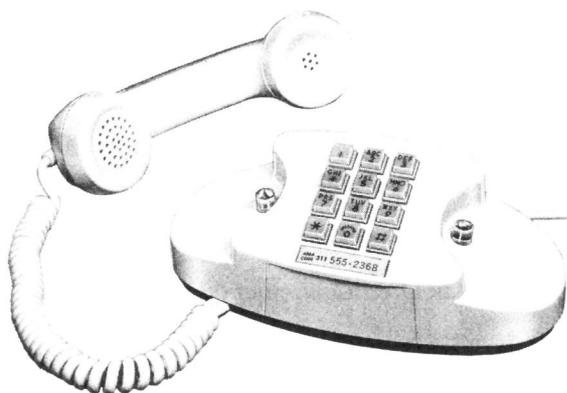

Fig. 1—2702B Telephone Set
2.01 The 2702B (Fig. 1) and 2702BM (Fig. 7) telephone set are primarily intended for